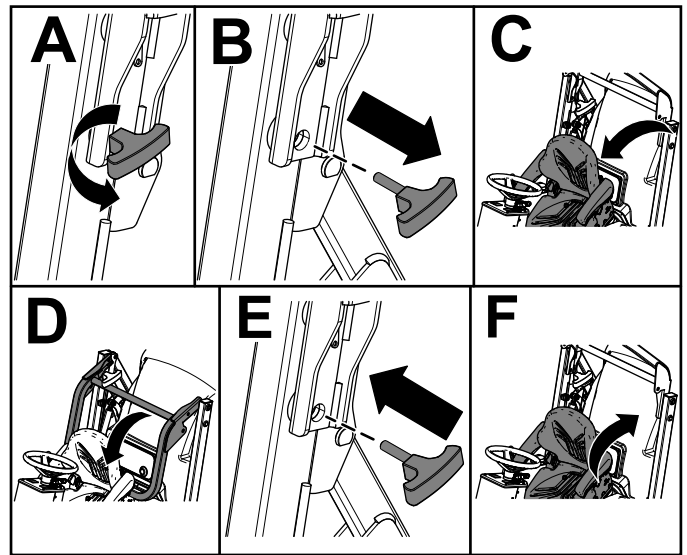

Figure 15
4. Tilt the seat forward (Figure 15).
5. Remove the knob pins from the roll bar (Figure 15).
6. Lower the roll bar and secure it in place with the knob pins (Figure 15).
7. Tilt the seat rear to the locked position (Figure 15).